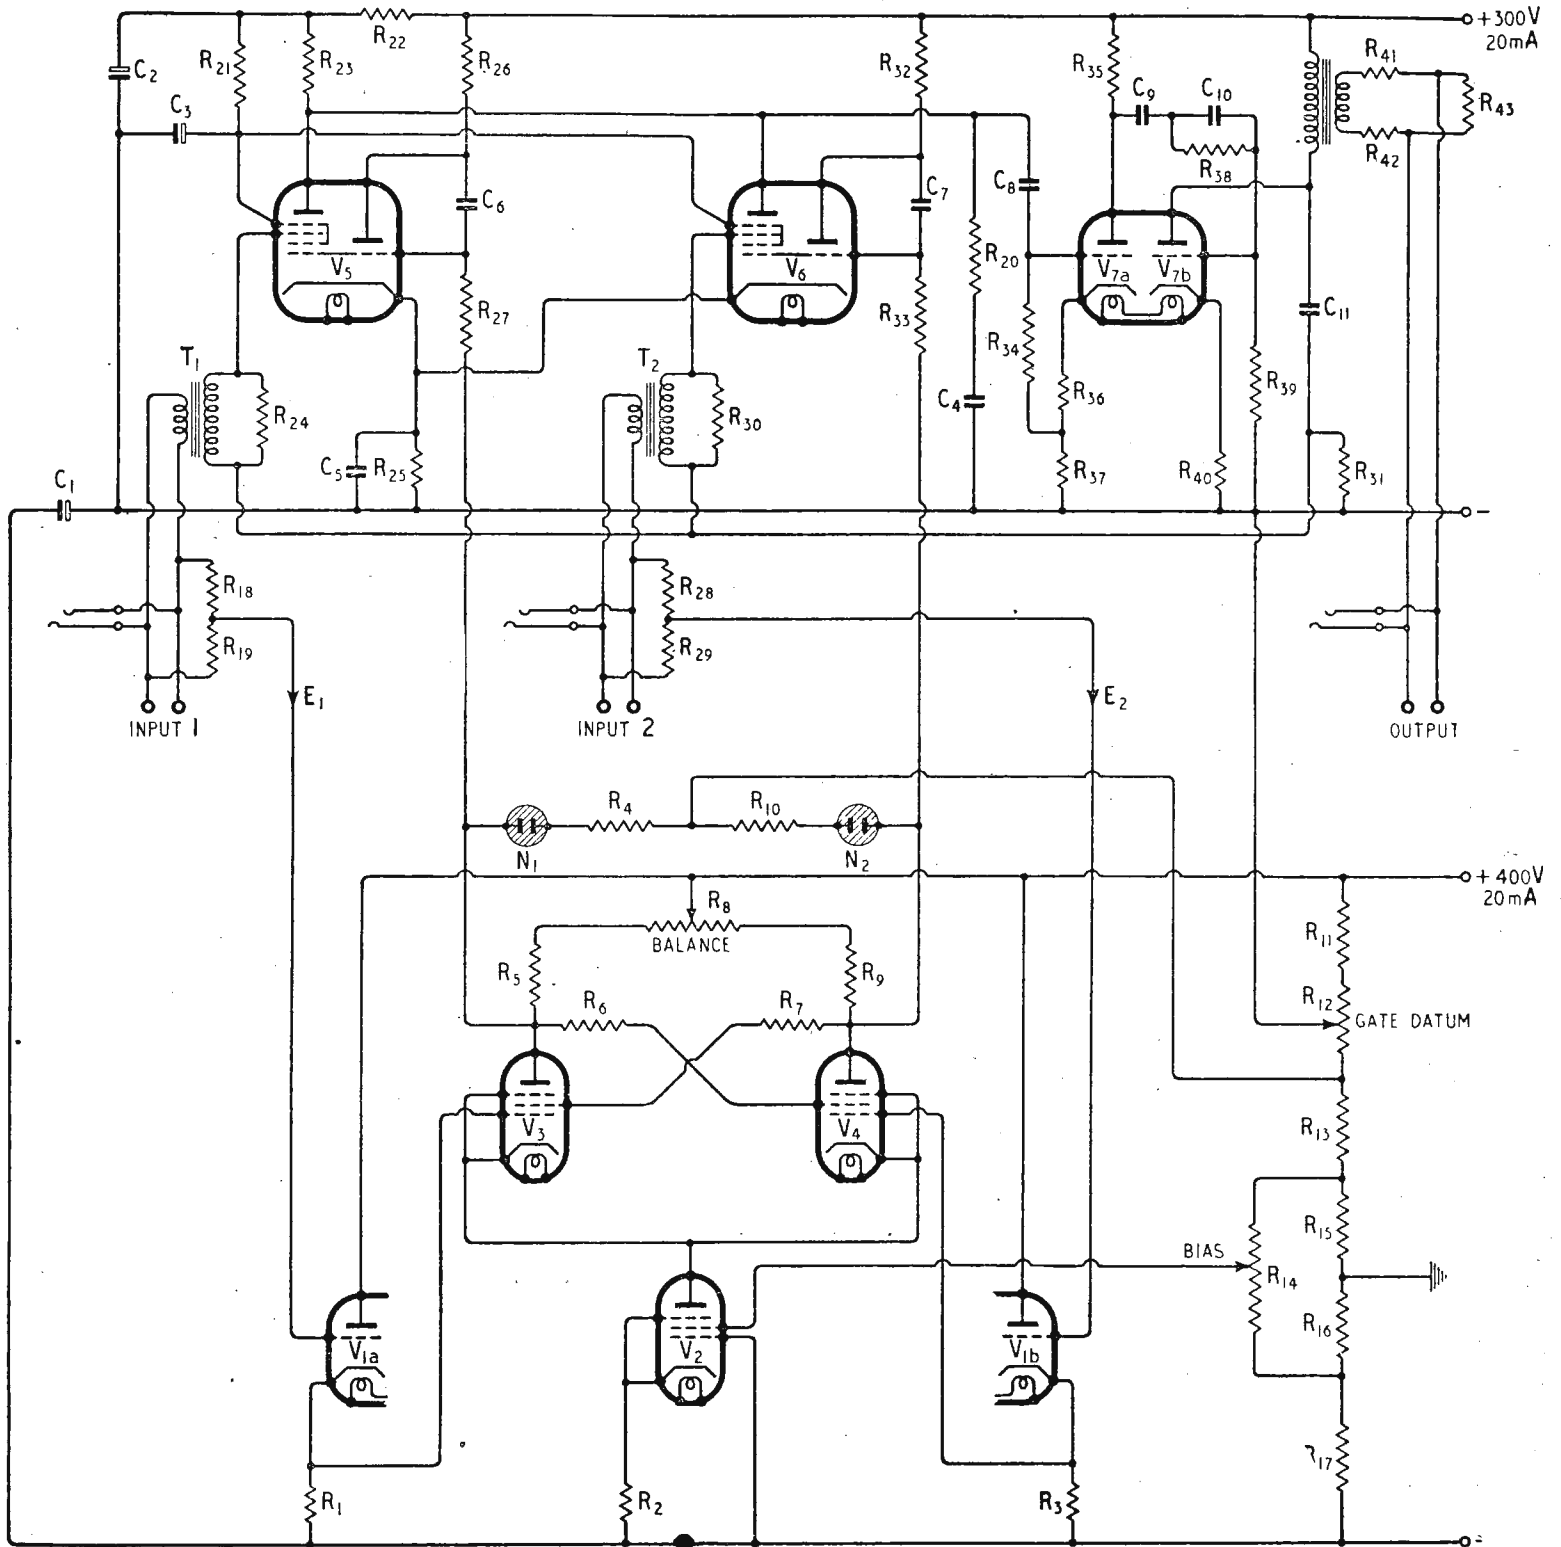

Fig. 2. Schematic circuit diagram of dual-diversity electronic switch (Mk.II, 1949).
Fig. 2 shows the complete schematic of the dual-diversity switch.
**Value of Components Used in Circuit of Fig. 2**
frequency rises, but the impedance of L increases. So instead of being proportional to frequency,  $a$  is proportional to frequency-squared. This steepens the cut-off slope, as shown in Fig. 2 (top right-hand corner and beyond). In figures, LC gives 12 db per octave, compared with 6 for RC. As it happens, the sensitiveness of the
Fig. 2. The performance of single RC and LC smoother sections is compared here. The dotted lines show the results of making the "vector" assumption—the discrepancy becomes very large near  $\sqrt{q}=1$ , because L and C resonate. But the full-line curve itself is highly theoretical here, as it neglects the resistance of the choke and the effect of the load resistance. The useful part of the characteristic lies mainly off the diagram, beyond the top right corner.